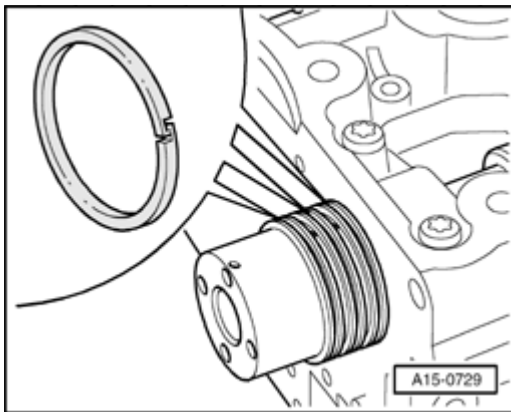

Fig. 282: Checking Whether Piston Rings At Camshafts Are Installed
- Engage piston ring ends with each other. See **Fig. 282**